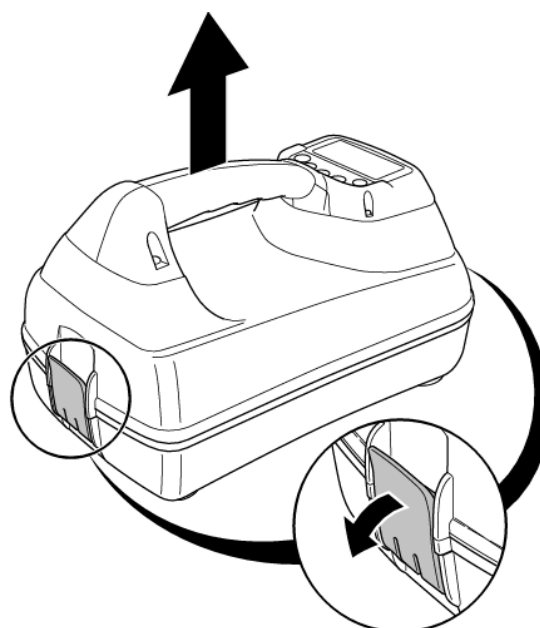

**Figure 4.7** Connecting the Li Ion lead
- 2 If using a Li-Ion battery pack un-plug the lead connector (see figure 4.7)
If using the Li-ion battery pack, plug the lead into the battery connector (fig 4.7).